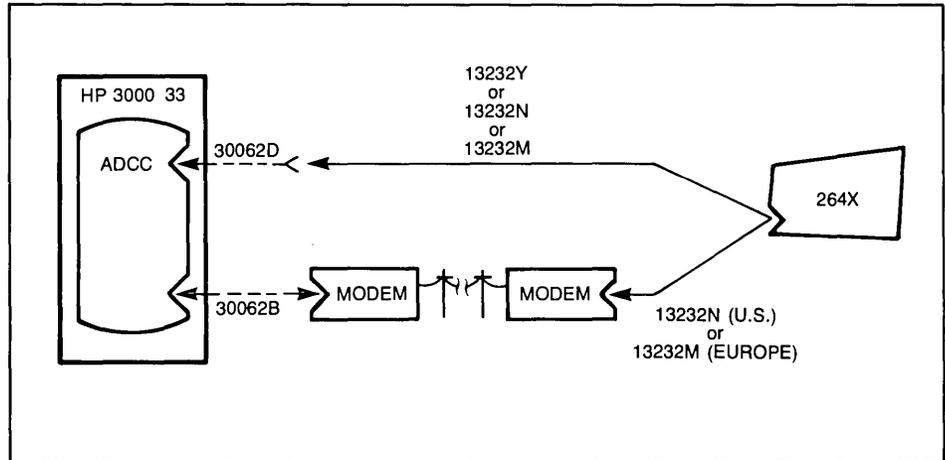

Figure F-1
- BLOCK MODE: UP (OFF) or DOWN (ON)
6. Cables: See figure F-1.